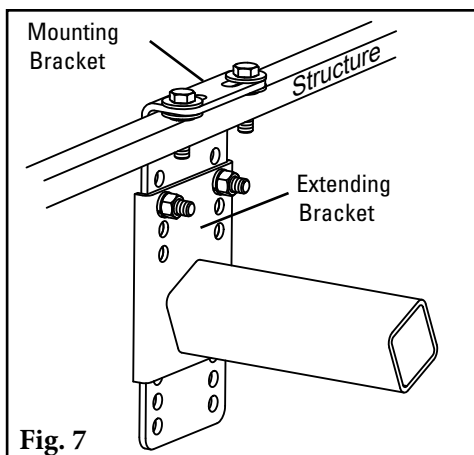

Fig. 7
7. **Attach Extending Bracket** to mounting bracket already installed on far side of conveyor (Fig. 7). Finger-tighten bolts for future adjustment. Top bolt holes should be even with the normal height of the belt.